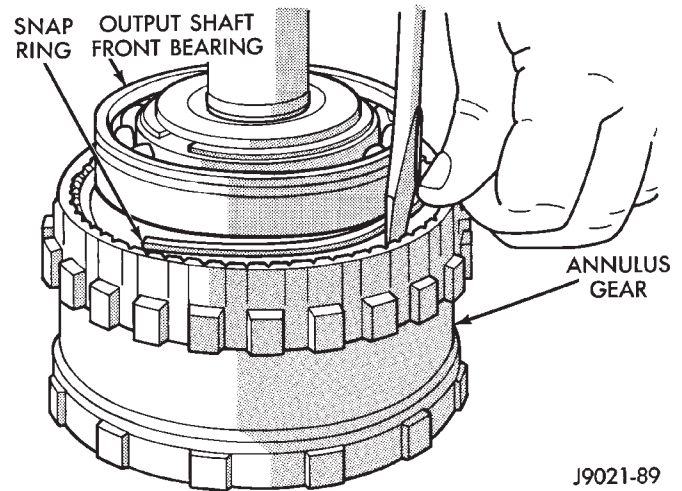

Fig. 221 Annulus Gear Installation
(3) Install annulus gear on output shaft, if removed. Then install annulus gear retaining snap ring (Fig. 221).